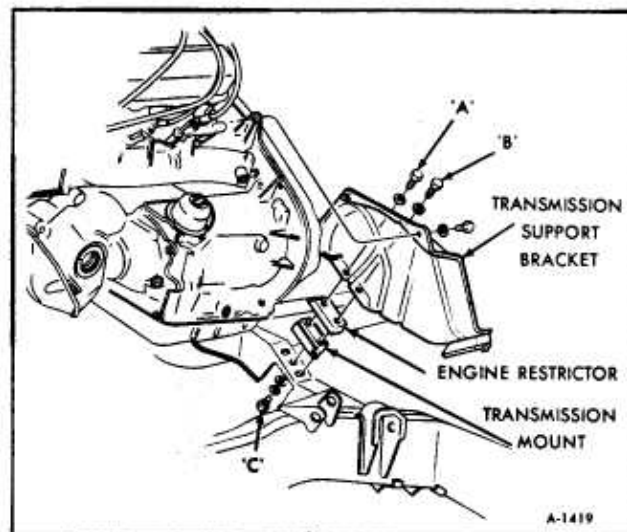

Figure 7—Engine Rear Mounting
3. Remove bolts "A", "B" and "C" on both sides of the engine/transmission rear support (See figure 7).